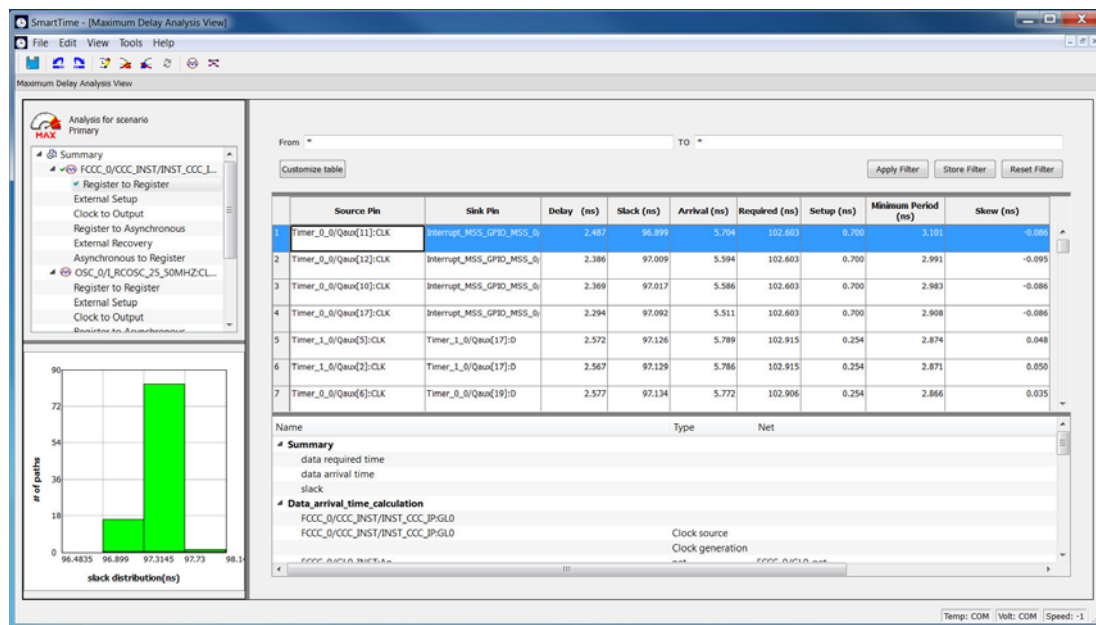

Figure 5-6 • SmartTime Max Delay Timing Analysis
2. The Maximum Delay Analysis View window opens. Maximum Delay Analysis checks for any setup violations. A green check mark next to **Register to Register delay** indicates that there are no setup violations. Select the **Register to Register** path set for the `GL0_net_inferred_clock` domain (Figure 5-6).